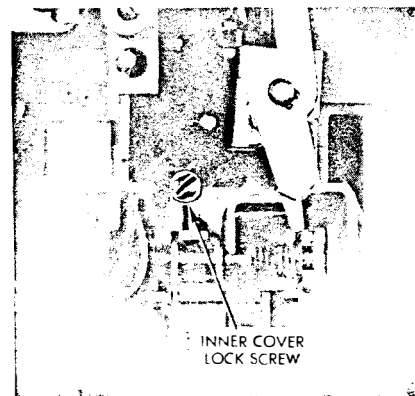

Fig. 8. Inner Cover Lock Screw
- b. Loosen captive Inner cover lock screw as shown in Fig. 8.
- c. Tighten inner cover lock screw to 10-in.-lbs. max., see Fig. 8.